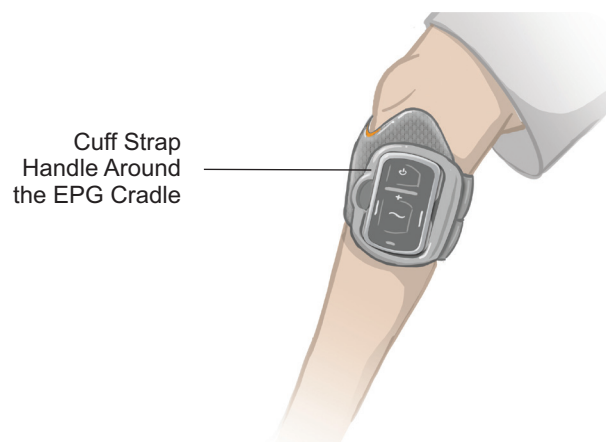

Figure 6-1: Regular Lower Leg Cuff fastened on the right leg.
The Lower Leg Cuff Strap is used to hold the Lower Leg Cuff in place on the leg. The Lower Leg Cuff Strap is elastic, and fastens around the leg and the EPG Cradle. See Figure 6-1. The cuff strap for the Regular Lower Leg Cuff comes in four sizes: small (S), medium (M), large (L), and universal. The cuff strap for the small Lower Leg Cuff comes in one size: extra small (XS).